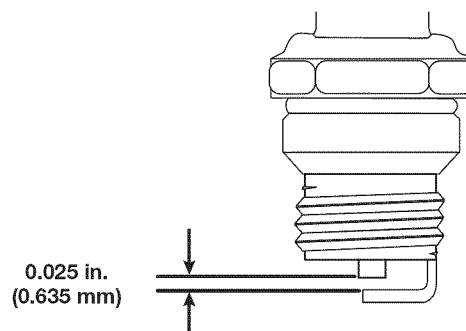

Fig. 18
4. Use a feeler gauge to set the air gap at **0.025 in. (0.635 mm)** (Fig. 18).